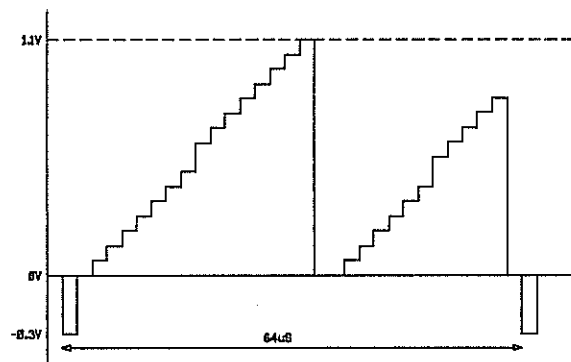

Figure 1: The generated test-pattern
4. Measure a staircase pattern like the one in fig. 1.